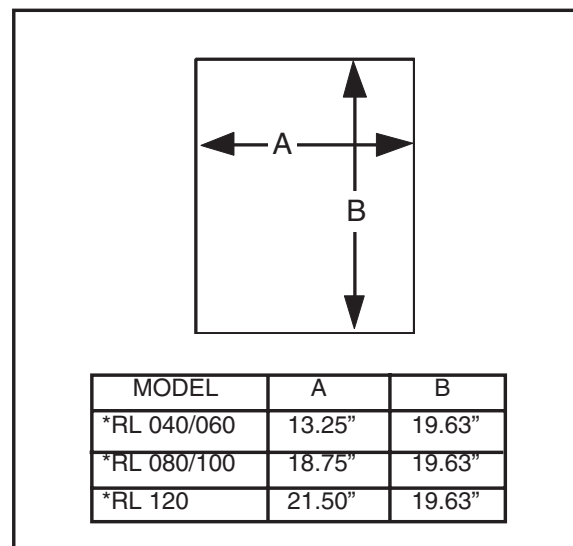

Figure 7. Opening in Wood Floor
1. Cut hole and frame the hole per the dimensions in Figure 7.